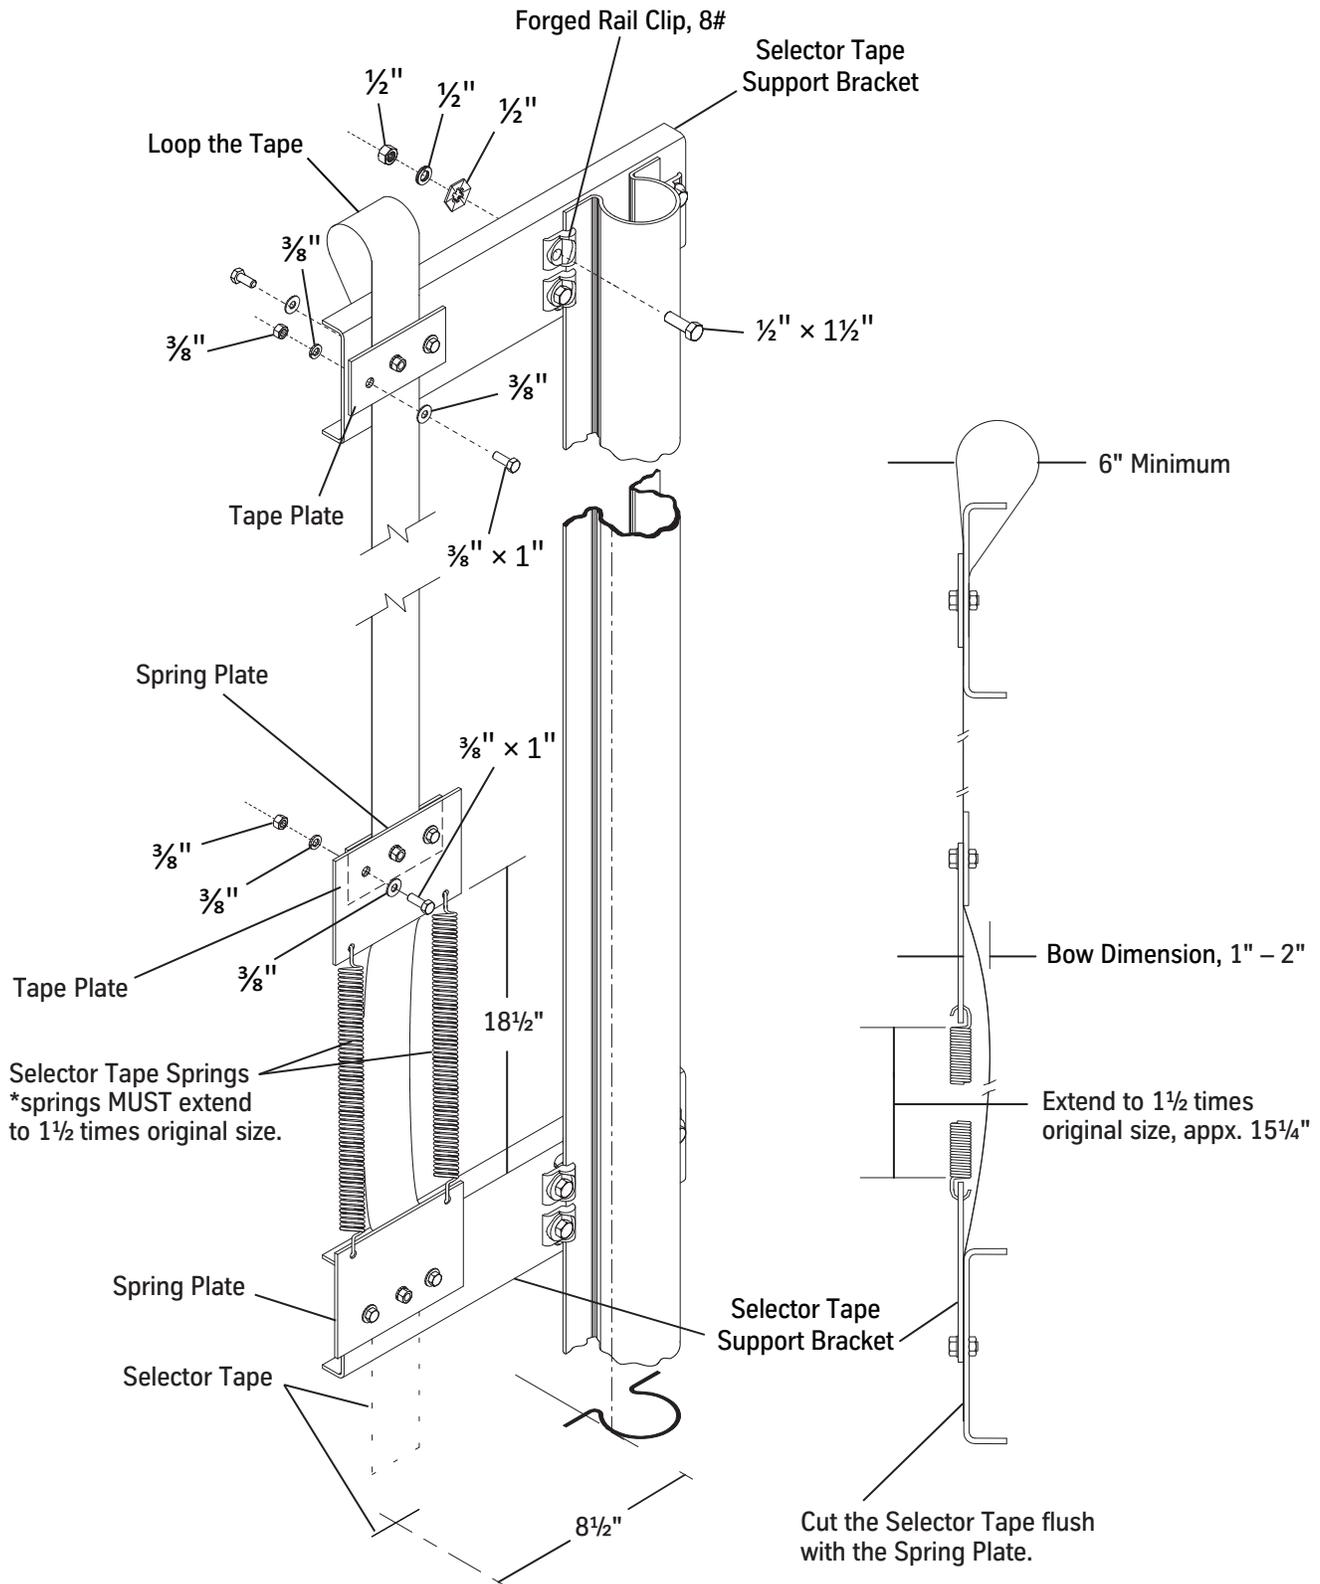
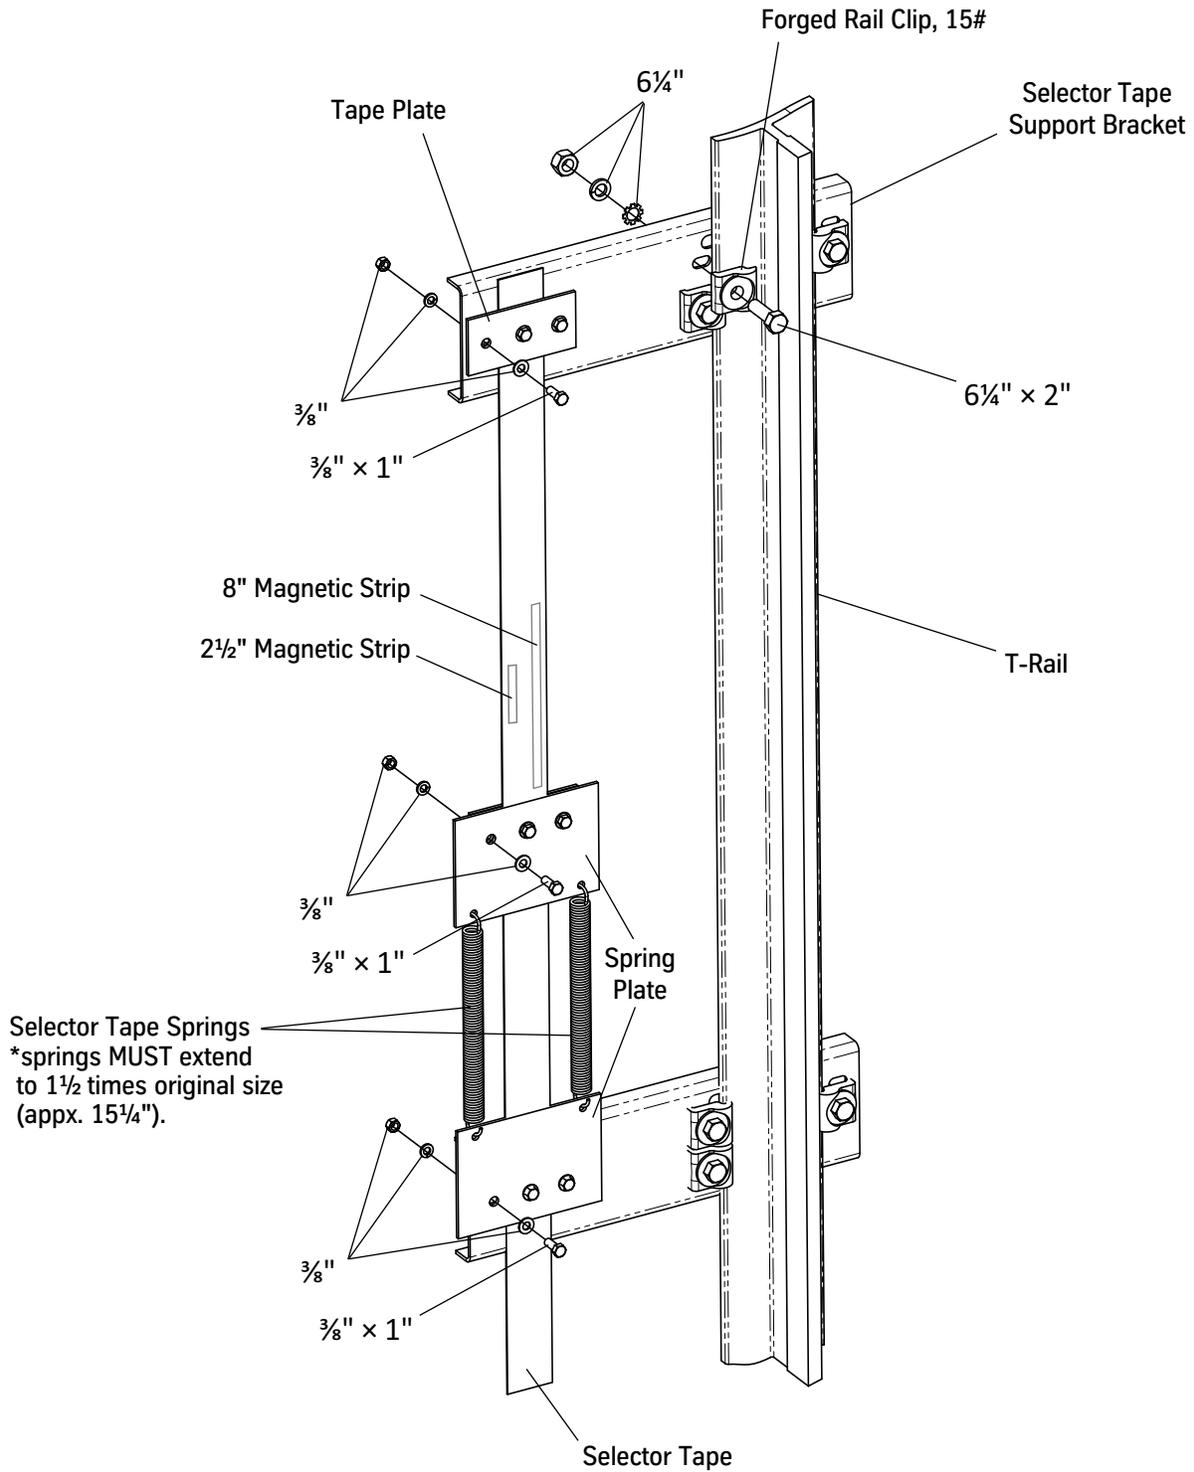

Figure 13 - Formed Rail Selector Tape Installation
Figure 14 - T-Rail Selector Tape Installation
2. Attach the selector tape to the top tape support bracket; loop the tape over the bracket. The loop should be a minimum of 6" at its widest point. See Figure 13 on page 1-18 or Figure 14 on page 1-19.